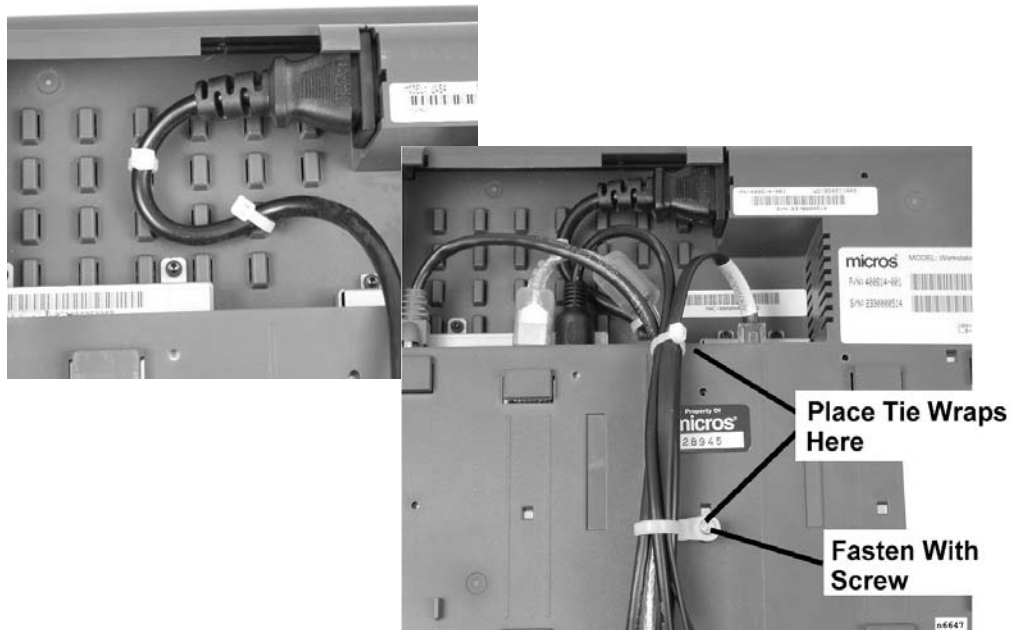

Figure 4-1: Securing the AC Power Cable and Bundling the Peripheral Cables
Attach the AC Power cable to the AC input connector. Secure it to the 'cable cleats' with a pair of tie wraps as shown on the left side of Figure 4-1. The AC cable is somewhat heavier than most peripheral cables and will serve as the 'strength member' for the entire bundle.
1. Connect each peripheral cable to the appropriate I/O connector. Bundle each peripheral together with the AC power cable and attach two tie wraps to the bundle as shown on the right side of Figure 4-1.
Figure 4-1 shows two tie wraps. The tie wrap shown in the upper portion of the illustration near the IO panel must be installed as shown to prevent the cable bundle from interfering with cut-outs in the stand when you attach it. The second tie wrap is supplied with the stand and must be fastened to the bottoms of the case with the screw supplied.